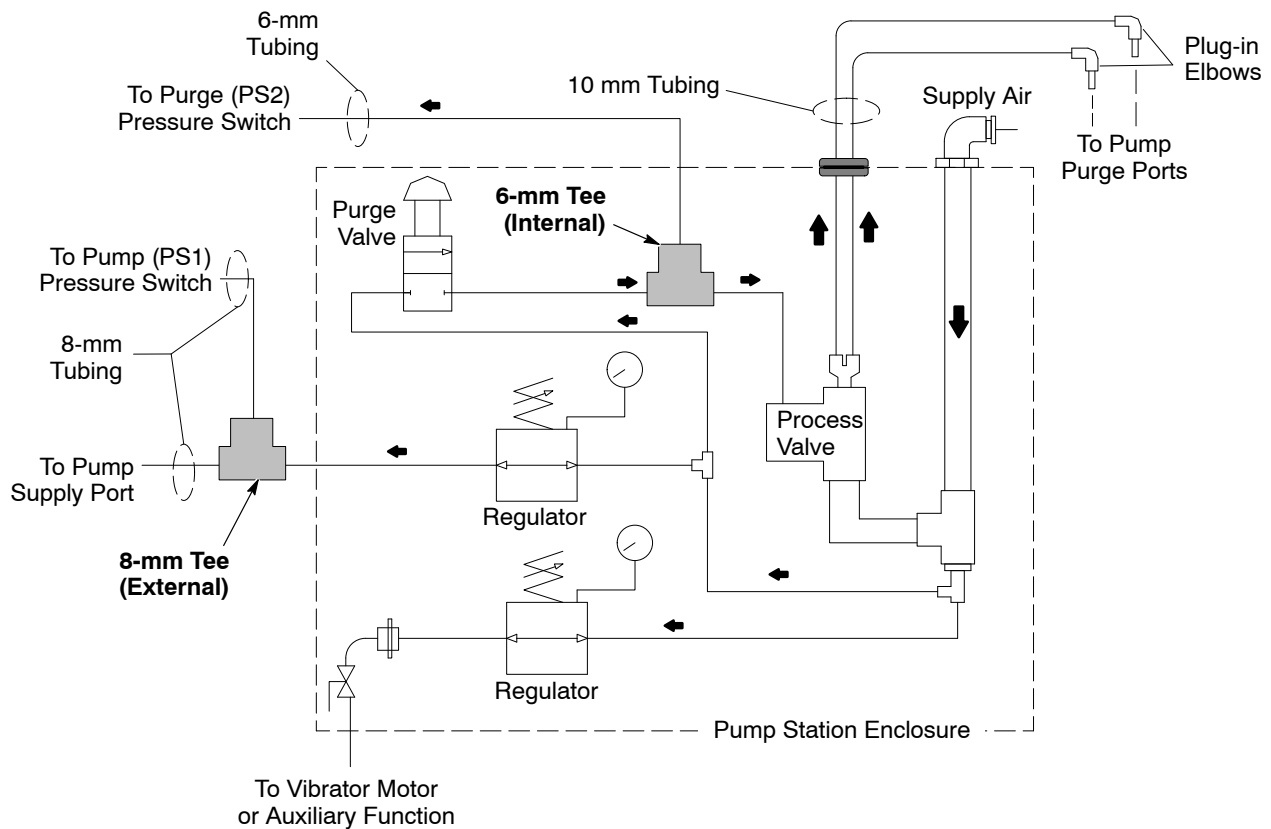

Figure 5 Pump Station Tee and Tubing Installation for Controller PUMP and PURGE Pressure Switches
Before mounting the pump station, install two push-in tubing tees in the pump station air tubing as shown in Figure 5.
- Connect 6- and 8-mm tubing from the pump station to the PUMP and PURGE pressure switch ports on the bottom of the controller. Refer to *Pump Station Modification* and Figure 5 on page 11 for the pump station connections.
See Figure 5. Purging can be controlled remotely if desired. To do so, install a shuttle valve in the pilot air line between the purge valve and the 6-mm tee installed in the line to the process valve, inside the pump station enclosure.